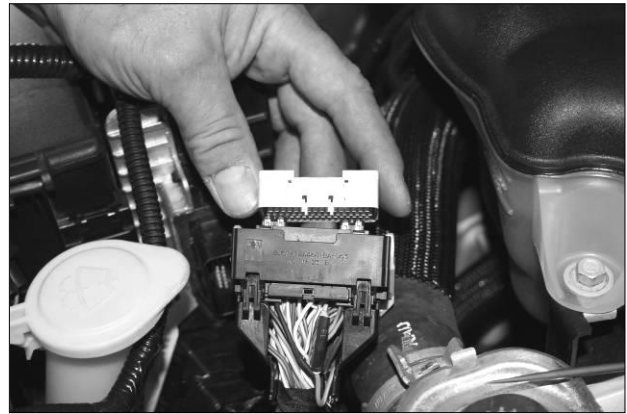

**Figure 1**
1. You will be working with the far left 70 pin or "cowl" connector. (See figure 1 below).